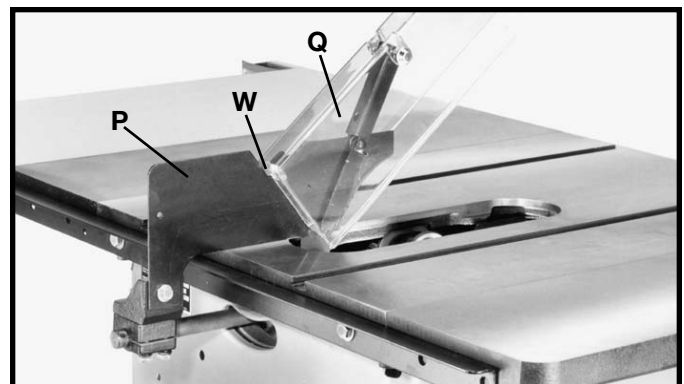

Fig. 26
14. **IMPORTANT:** The splitter (P) Fig. 26, features a notch (W) cut into the top edge. Raise the front of the clear blade guard (Q) Fig. 26, until the rear edge of the guard slips into notch (W) of the splitter. This notch enables the blade guard to stay in the raised position and makes changing blades easier.